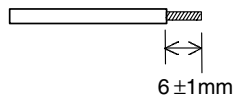

Figure 2-3-5 End treatment
1. Wires connected to control circuit terminals must be 0.5mm² shielded wire or twisted vinyl wire. Remove the sheath as shown in Figure 2-3-5 and then connect it.